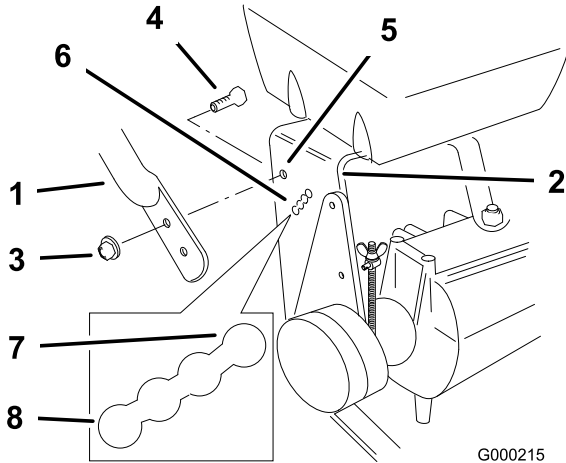

Figure 18
2. Loosen the upper flange bolts (3/8 x 1 inch) and the flange nut securing the handle to the rear frame (Figure 18).
3. Remove the lower flange bolts (3/8 x 1 inch) and flange nuts securing the handle to the rear frame (Figure 18).